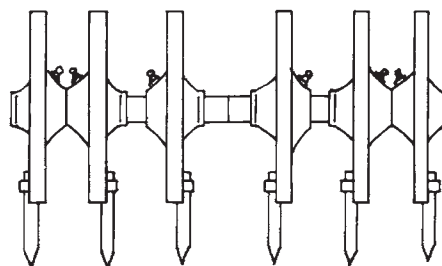

FIGURE 1
4. With tractor engine off, install the appropriate tools for your needs. Figure 1 shows coring tines mounted to the aerating wheels (8 tines per wheel). When using coring tines, the nipple on the inside of the tine clamp (Part No. 515198) must be placed into the hole on the sides of the tine. Refer to Parts List, Pages 21 and 23 for knife blade installation.
NOTE: To assure equal tine spacing, note the position of the tines in Figure 1. The middle wheels have the tines mounted on the inner side, the outside wheels have the tines mounted on the outer side. See Accessories (Page 14) for optional attachments.